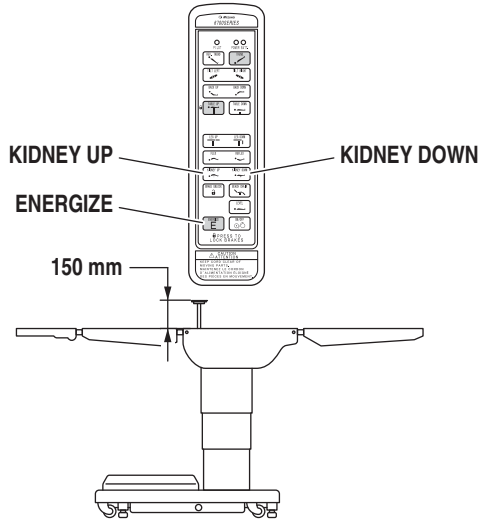

Figure 2-13. Kidney Lift Positioning
h. Kidney Lift To raise the built-in kidney lift, press the ENERGIZE button and then the KIDNEY UP button (figure 2-13). Up to 6 inches of lift can be achieved. Press the ENERGIZE button and then the KIDNEY DOWN button to lower the kidney lift.